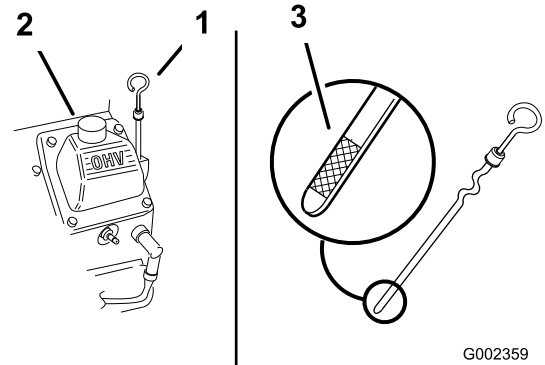

Figure 24
3. Clean around the oil dipstick (Figure 24) so that dirt cannot fall into the hole and damage the engine.
4. Remove the oil dipstick and wipe the end clean (Figure 24).
5. Slide the oil dipstick fully into the filler tube (Figure 24).
- Slowly pour approximately 80% of the specified oil into the filler hole (Figure 24).